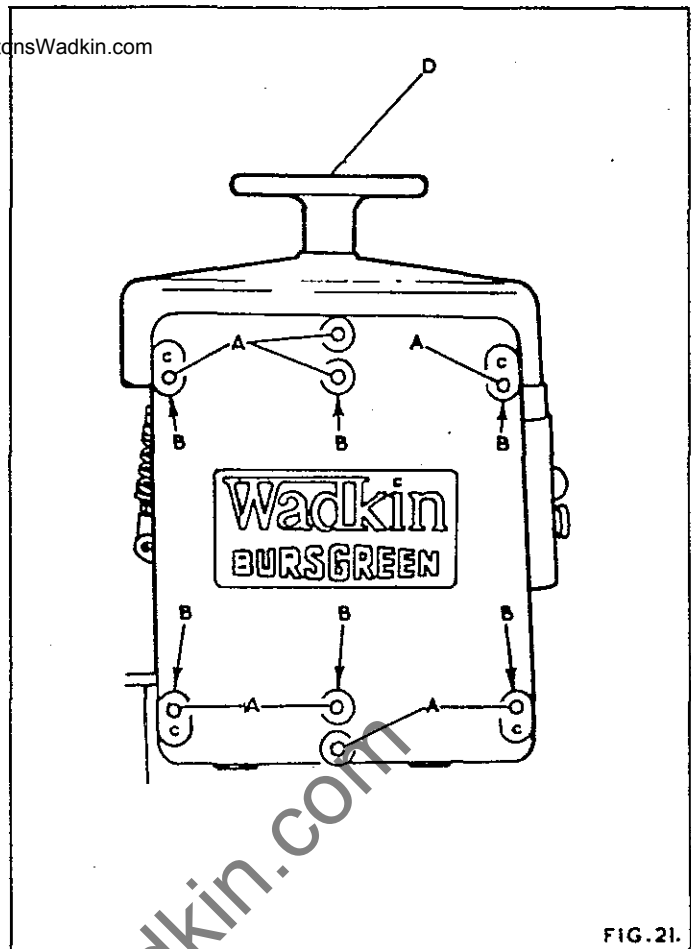
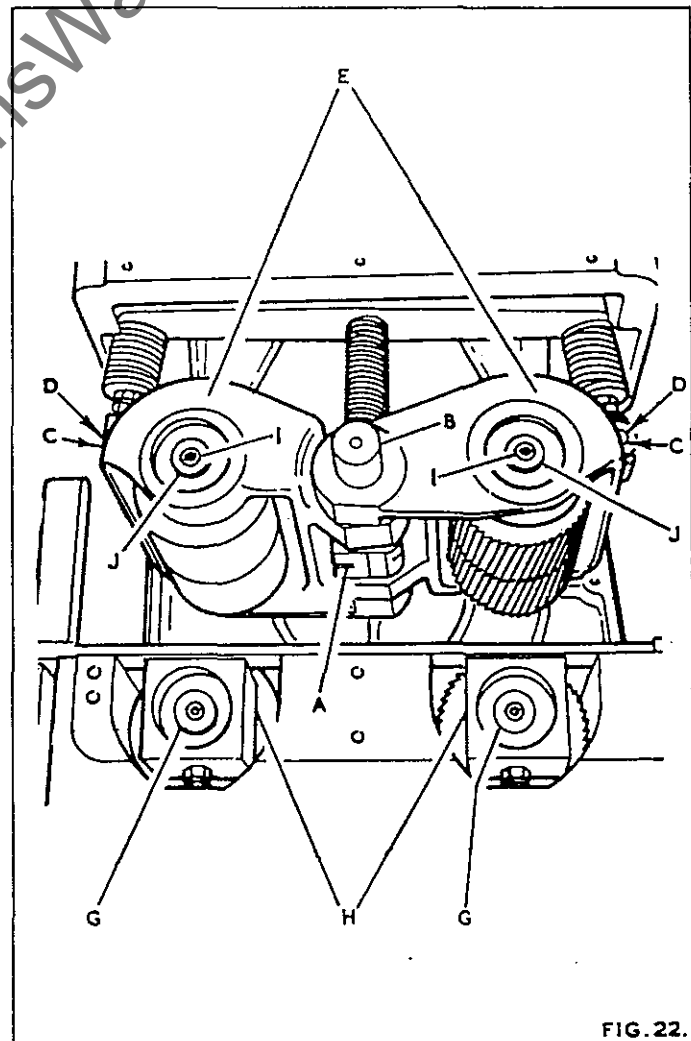

FIG. 21.
FIG. 22.
4. Loosen four round head screws holding infeed table visor and remove visor. Remove dust caps "A" in Fig. 21 and proceed to loosen socket head capscrews "B" in Fig. 21. Drift front sideframe "C" from dowels by means of hide faced mallet or similar tool.
5. Raise feed rollers to top position by means of handwheel "D" in Fig. 21. Loosen socket head capscrew "A" in Fig. 22 then lower feed rollers by handwheel "D" in Fig. 21 down until they rest on piece of stock which should be placed beneath feed rollers to take weight.
6. Remove feed roller pivot shaft "B" in Fig. 22 by drifting from the rear of machine, then continue by removing circlips "C" and driving pins "D".
11. At this stage the bottom feed rollers can be changed by loosening countersunk head screws and washers "G" in Fig. 22 then removing bearing blocks "K". The feed rollers can now be removed from their respective shafts.
12. To remove the top feed rollers from housings, loosen hexagon head screws and washers "I" in Fig. 22 and remove shafts "J" by pressing from same end as circlip held bearings. Note position of spacers on shafts to ensure correct reassembly. The rollers can now be removed.